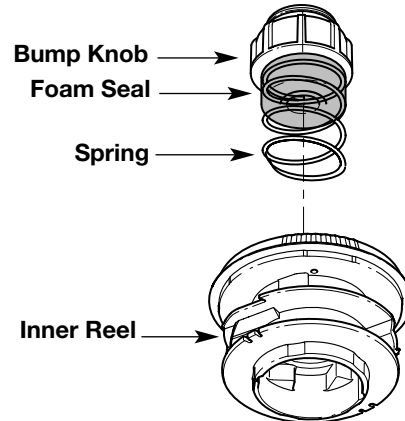

Fig. 23
- Turn the Bump Knob counterclockwise and remove the bump knob, spring, and foam seal (Fig. 23).
2. Pull out the bump knob, spring, and foam seal (Fig. 23, Pg. 17).
3. Pull the inner reel with existing line from the outer spool (Fig. 23, Pg. 17).
7. Place the bump knob, spring, and foam seal into the inner reel (Fig. 23, Pg. 17).